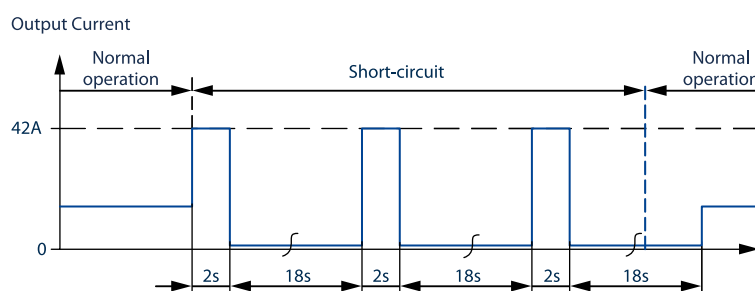

Fig. 6-2: Short-circuit on output, Hiccup^{PLUS} mode, typ.
- ¹⁾ At heavy overloads (when output voltage falls below 13V), the power supply delivers continuous output current for 2s. After this, the output is switched off for approx. 18s before a new start attempt is automatically performed. This cycle is repeated as long as the overload exists. If the overload has been cleared, the device will operate normally. see Fig. 6-2.